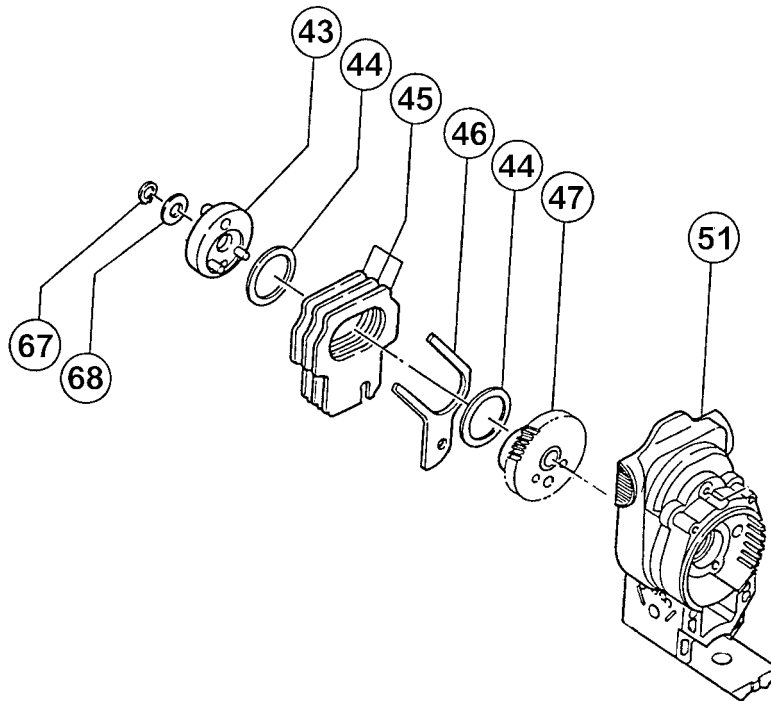

Fig. 8
(6) Disassembly of the Weight Holder [43] from the Gear Cover [51] (Fig. 8)